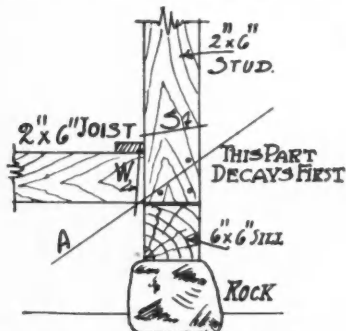

Fig. 1. Showing Sill and Joist, Which Are First Liable to Decay.
In the ordinary construction of open boarded corn cribs, the ends of the floor joist, the lower end of the side studs, and the sills are the first parts to decay. Especially is this the case on the low side of the sloping roof crib and still more so if this is on north side of the building. A new sill is easily placed when the decayed one is removed, but to repair the ends of the joist and sills makes a very much patched job if an attempt is made to splice them. In Fig. 1 the sill and part of joist, as well as the sill below the line (A) is the part to first decay and both are the essential parts because each is where the full weight of the crib and its contents rest on sill and foundation.
The most practical method to repair this is to first jack up the side of crib a few inches and support it on posts placed under upper plate as at (B), Fig. 3, then saw studs at (S) and joist at (W), Fig. 1. The old sill is then removed and the rock on which it rested moved in 6 inches (as Fig. 2) and